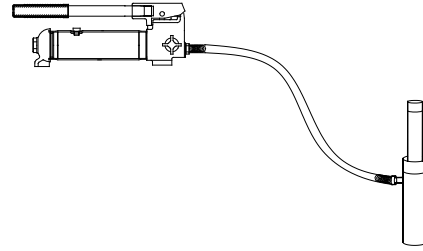

Figure 7 - Illustration to bleed air from system
1. Place pump at a higher elevation than the hose and cylinder as shown in Figure 7.